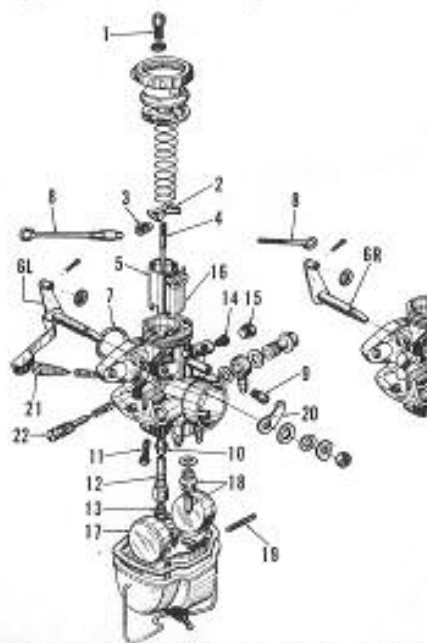

Fig. HN8-1—Exploded view of typical carburetor. Models with one carburetor are similar. Adjusting screws (21 & 22) are on other side of right carburetor.
**CARBURETOR.** Models C72, CA72, C77 and CA77 use one carburetor, all other models use two carburetors (Fig. HN8-1).